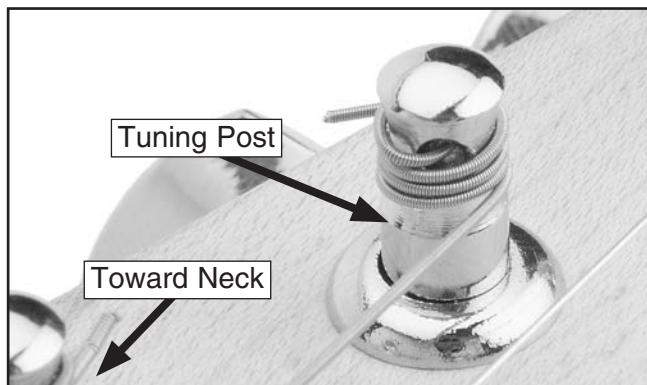

Figure 31. Example of string wrapped around tuning post.
5. Rotate the tuner until the string just begins to hold the winding tension (**Figure 31**), and so the string is on the right side of the tuning post.